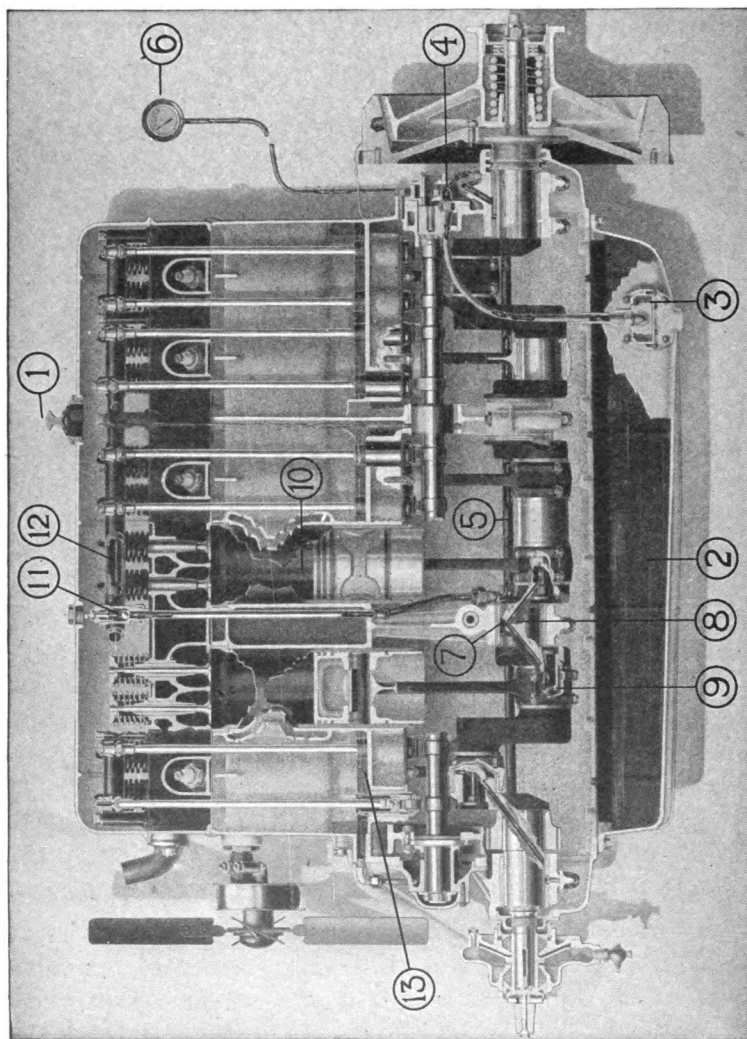

Fig. 217. Pressure System with Many Individual Features on Marmont Engine
*Marmon.* The Marmon system is not radically different from that just described, but there are a number of small individual points worthy of mention. The filling is not through the usual crankcase breather pipe, but through an opening in the top of the cylinder head 1, Fig. 217. From this opening the oil flows around the valve push rods (the motor had overhead valves as will be noted) down into the
shaft, in which the pump will quite generally be found in the bottom of the oil sump or very close to it; the other is from some part of a shaft used for other purposes, in which case the position may vary widely. Examples of the first, or special-shaft method, will be seen in Overland, Fig. 214, and Cadillac, Fig. 215. Examples of the second method are seen in Stearns, Fig. 216, and Marmon, Fig. 217, in both of which the camshaft is used.